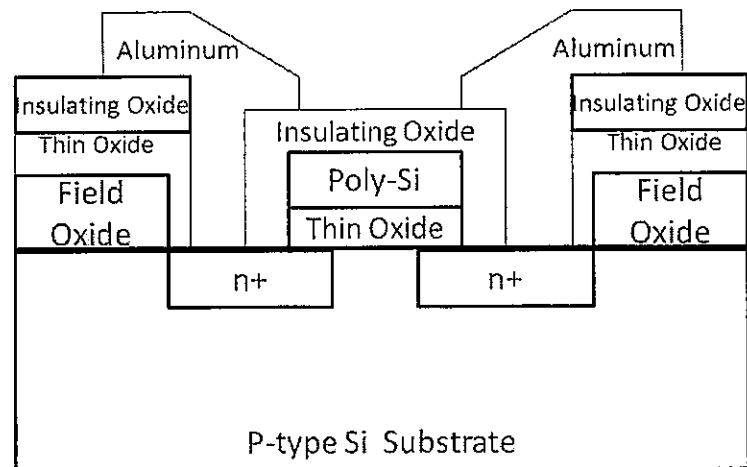

Figure Q2(d): Schematic cross-section of a n-type metal-oxide-semiconductor field-effect transistor (MOSFET) on p-type silicon substrate.
- (i) Design a self-aligned fabrication process flow for the MOSFET depicted in Figure Q2(d). Illustrate each processing step starting from the p-type silicon substrate. [11 marks]